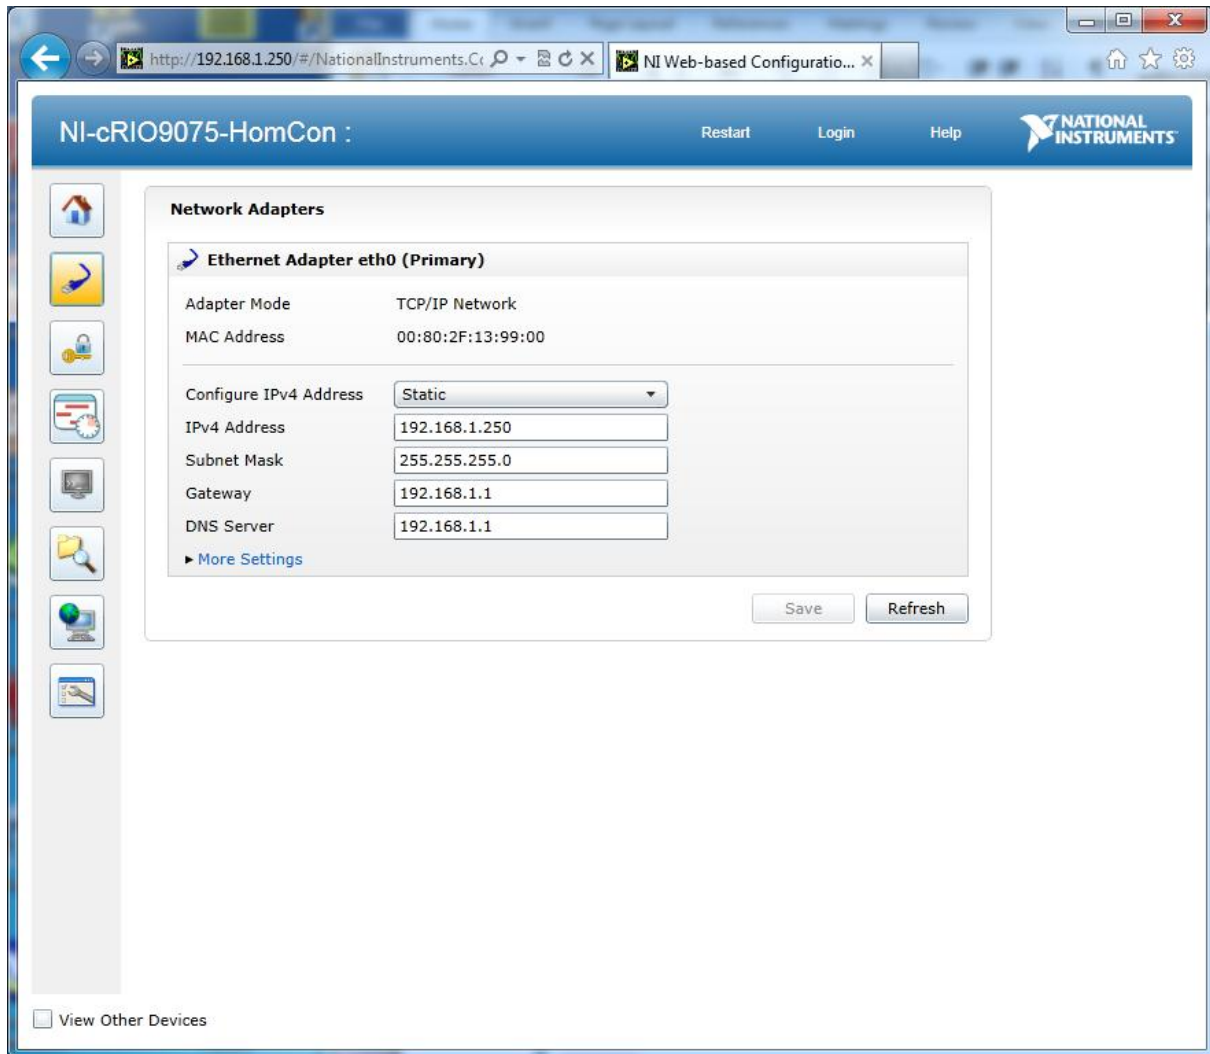

Figure 5. HomCon Network Settings page.
- Click Network Settings button (the second from top in the left-hand column). The window content changes to Figure 5.